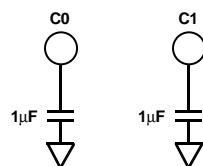

Figure 18. AD1849K External Filter Capacitor Connections
Figure 18 illustrates signal-path filtering capacitors, C0 and C1. The AD1849K must use 1.0 μ F capacitors.
- The Analog Devices AD1849K uses two external capacitors to complete its internal input filter as shown in Figure 18. The CS4215 calls the two pins on the AD1849K for these capacitor connections, “no connects.” By laying out a board with these capacitors, either chip will work.